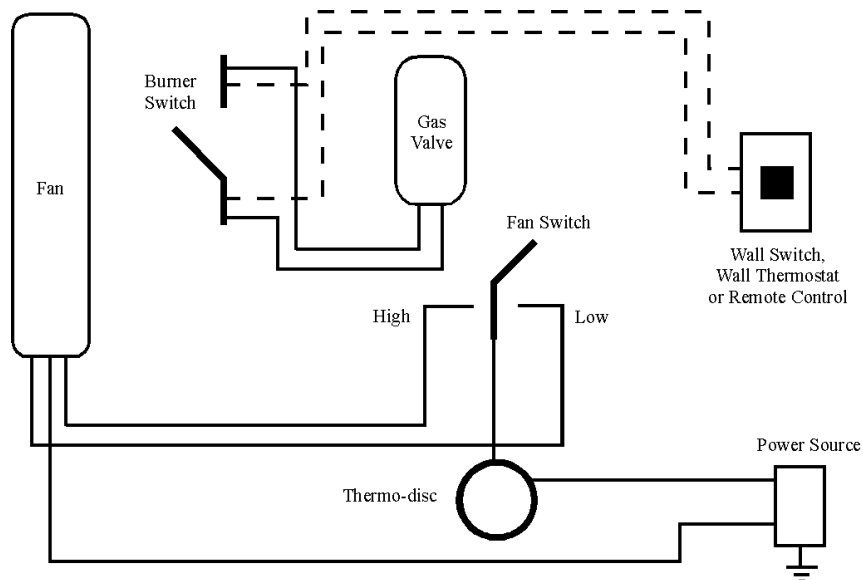

Fig. 12: Schematic Diagram of **KOZI DV1** Electrical System
2. Carefully remove the Pilot Hood allow the removal of the Pilot Orifice. (See Figure 12 below)